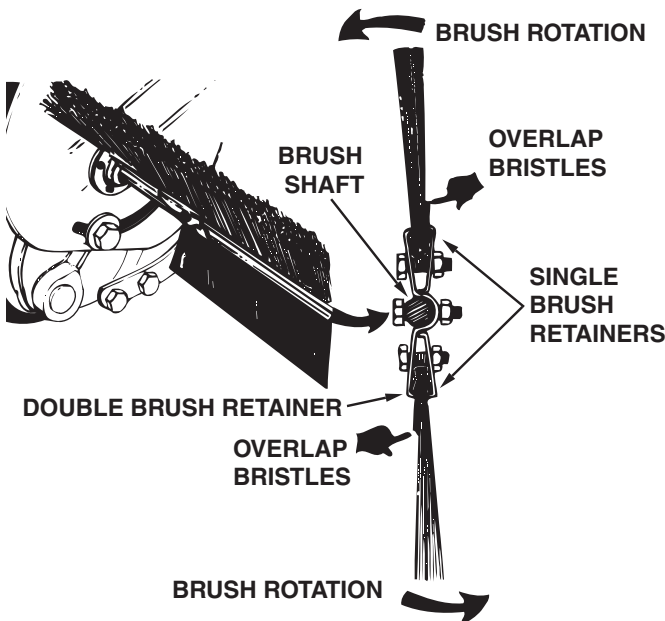

FIGURE 22
2. Loosen the hex bolts and lock nuts on two single brush retainers which clamp one brush to the double brush retainers. **Do Not loosen** or remove the bolts which fasten the double brush retainers to the brush shaft. See figure 22.
3. Slide the brush out of the retainers, noting on which side of the brush the bristles overlap. See figure 22.
4. Install new brush, making sure the bristles overlap on the same side of the brush as before. See figure 22.